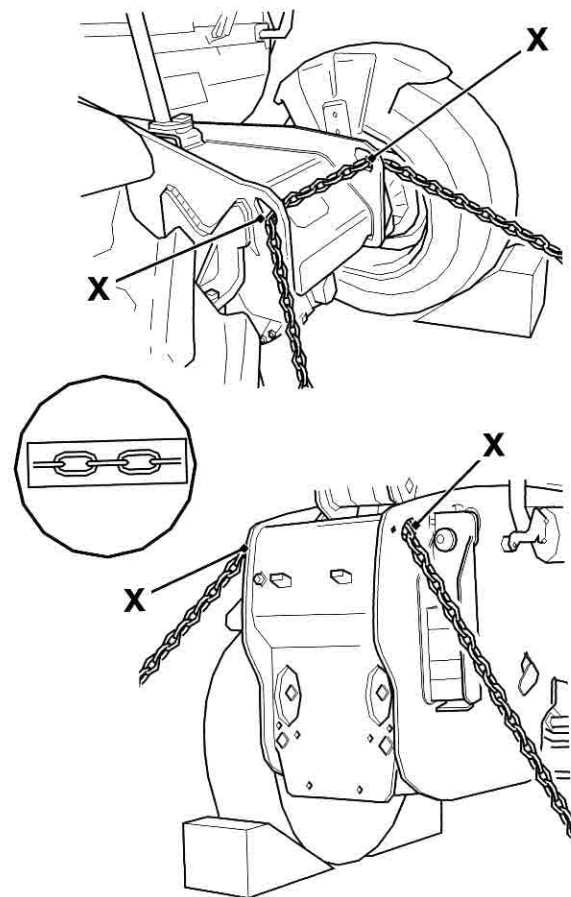

Fig 125.
- 3 Put blocks at the front and rear of all four tyres. Anchor the machine to the trailer with chains. The anchor points are shown on the illustration. ⇒ Fig 125. (□ 116).